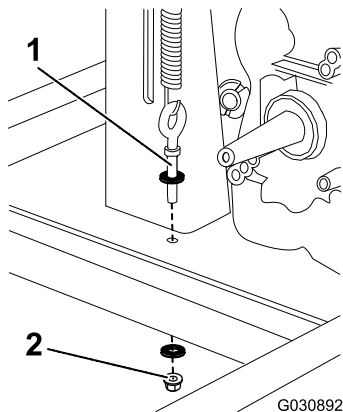
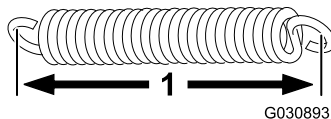

Figure 55
Figure 56
- A. Loosen the lower nut on the eye bolt and thread it to the end of the bolt (Figure 55).
4. Measure the spring from inside loop to inside loop; refer to Figure 56. If the spring stretches to more than 8.9 cm (3.5 inches), replace the spring.
5. To increase the spring tension thus increasing the belt tension, shorten the eye-bolt height by loosening the top eye bolt nut and tightening the lower nut (Figure 55 and Figure 56).